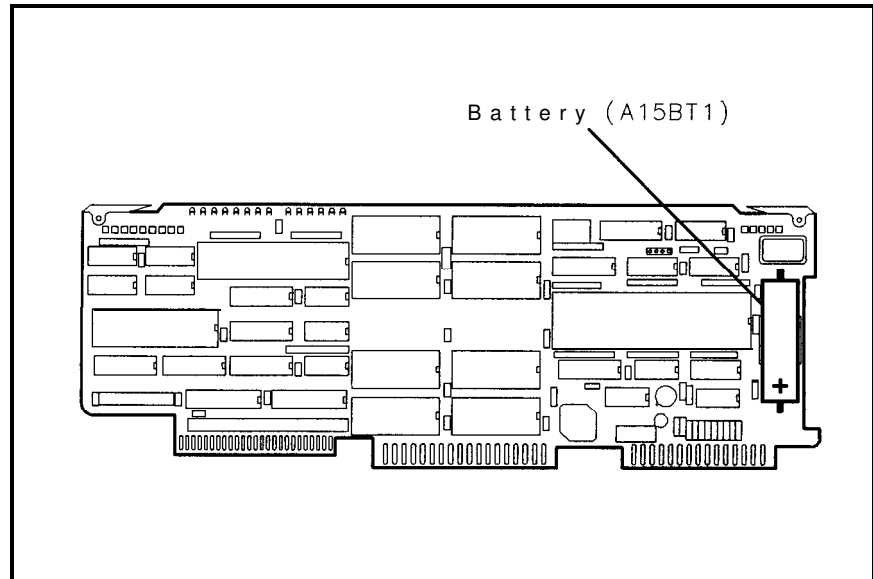

Figure 1-8. Location of Battery on A15 Controller Assembly
6. Remove the A15 controller assembly. Locate the battery on the A15 assembly. Figure 1-8 shows the location of the battery.
7. Replace the battery with a **new** one (HP part number 1420-0331). Be sure to install the battery with **the** polarity shown in Figure 1-8.